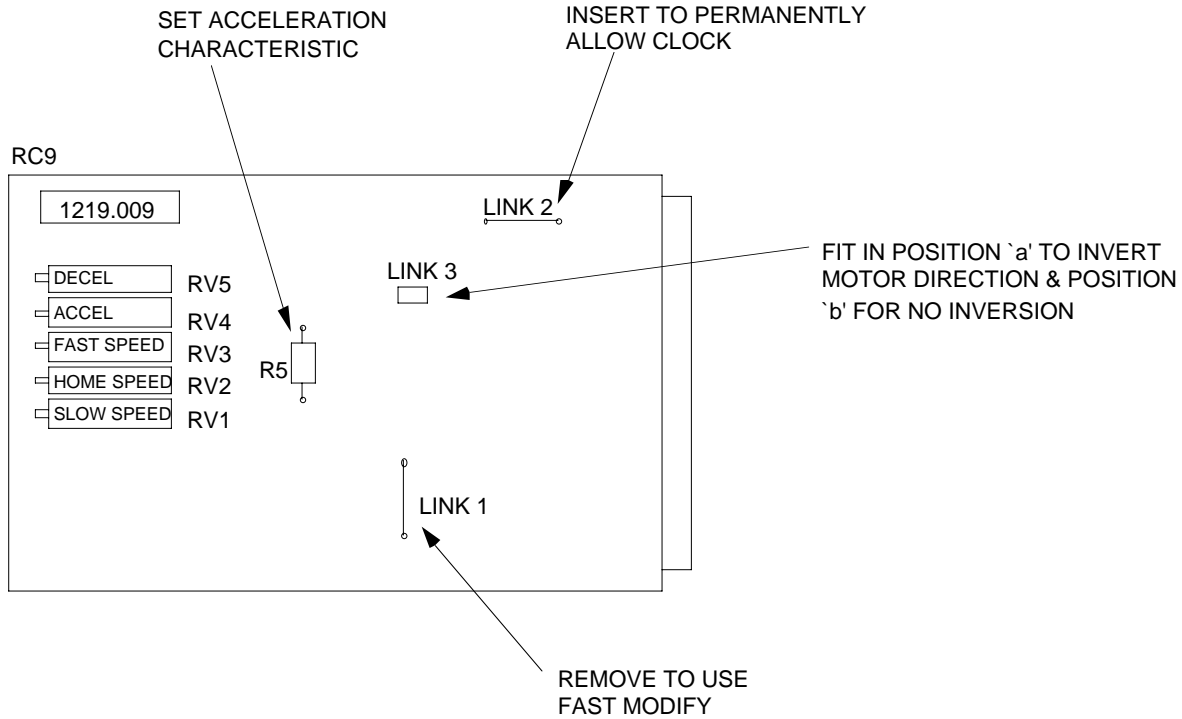

Figure 2-10. Links and Preset Controls on the RC9 Ramped Clock
19. $\overline{ALLOW\ CLOCK}$: Connect this terminal to 0v to run the oscillator. If it is taken high when the motor is running on the internal oscillator, a normal deceleration to stop will occur. If a positioning system has a table clamp feedback signal available it may be conveniently applied to this input to inhibit motor operation whilst the clamp is operative. This input may be held permanently low by fitting link 1 on the BC7 and link 2 on the RC9 (Figures 2-10 and 2-14 show the link positions).
Attach a light pointer to the motor shaft and align it with a reference mark. Turn preset controls RV1, RV2 & RV3 fully anticlockwise, RV4 & RV5 fully clockwise (see Figure 2-10).